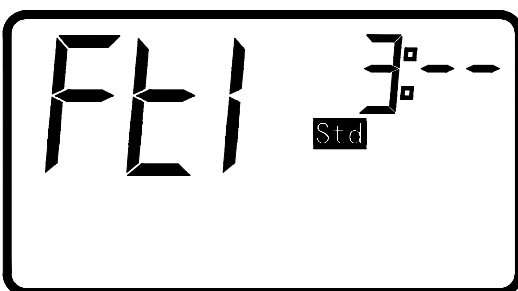

Fig. 5: filtering lasts for 3 hours
4. At setup status of “continuous working time of filtering cycle”, press “” to change the time, the settings are 1-11 hours, and the default time is 3 hours (Fig. 5).